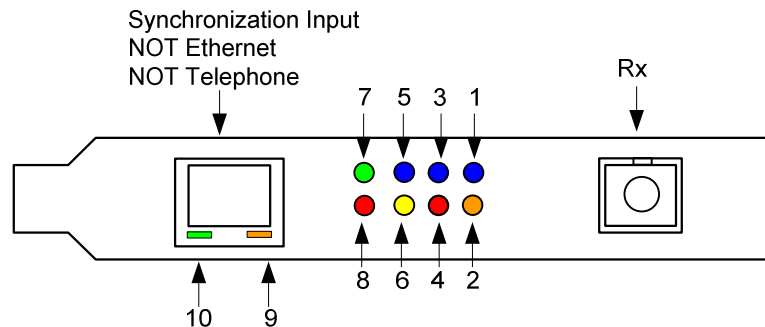

Figure 4-1. DAG 6.1S Card Status LEDs.
**Figure** Figure 4-1 shows the DAG 6.1S status LEDs.